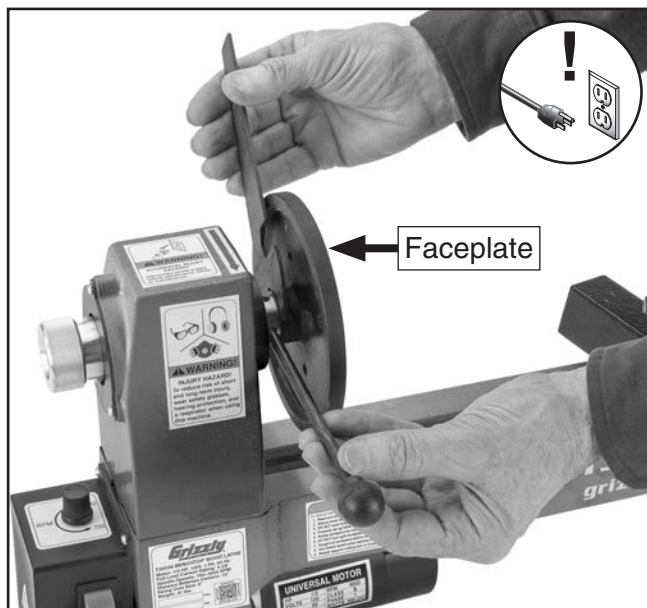

Figure 18. Installing faceplate on spindle.
3. Insert knockout tool into one hole on spindle, then tighten faceplate with open-end wrench (see **Figure 18**).
2. Put open end of wrench over flats behind faceplate. While holding spindle in place with knockout rod, turn wrench counterclockwise until faceplate is removed (see **Figure 18**).